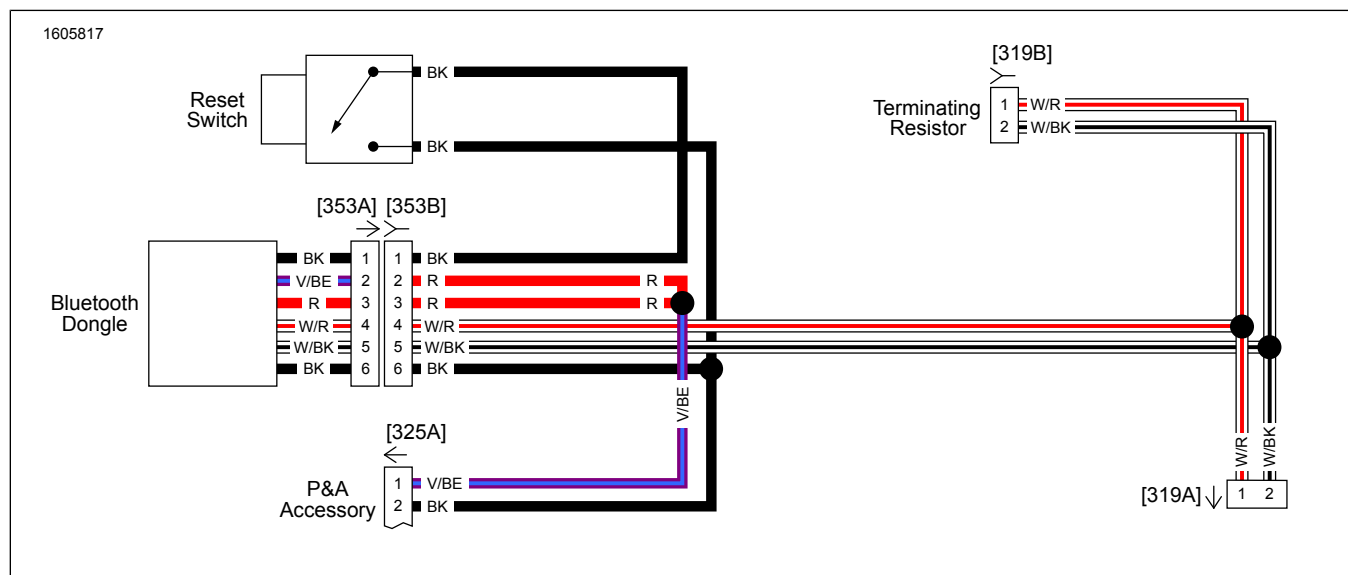

Figure 16. Bluetooth Dongle Harness (2017 and Later)(Typical)
1. See Figure 16. Install and route bluetooth dongle harness.
If Personal Identification Number (PIN) is forgotten or locked and needs to be reset, press and hold the "Pair Switch or Reset Switch" (See Figure 16, item 3) for 3 seconds to reset PIN. Reconnect to Bluetooth Dongle in H-D Audio App to set new PIN.